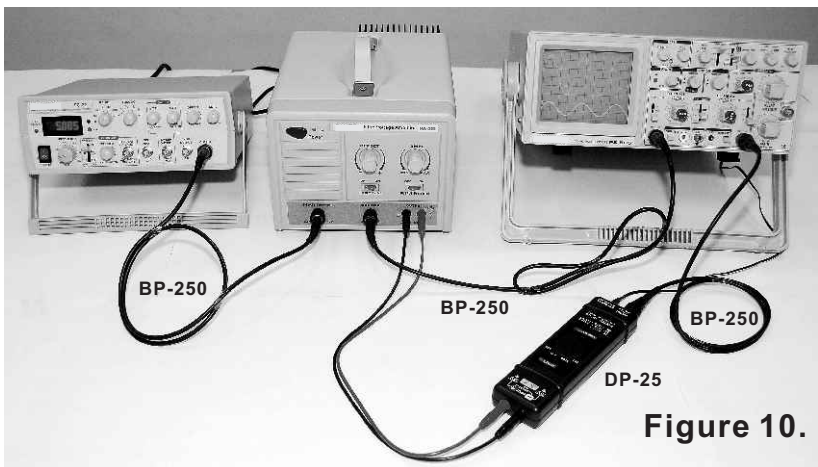

Figure 10.
5.3 Use Function Generator as input, to observe the HA-305 Monitor and Output, and the real output situation from oscilloscope. (Figure 10.)